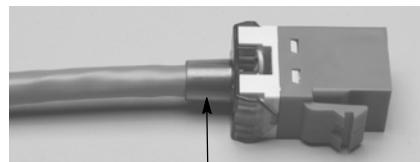

Figure 13a
20. For *unshielded* jack connectors, position the strain relief over the connector and snap into place. Refer to Figure 13a.